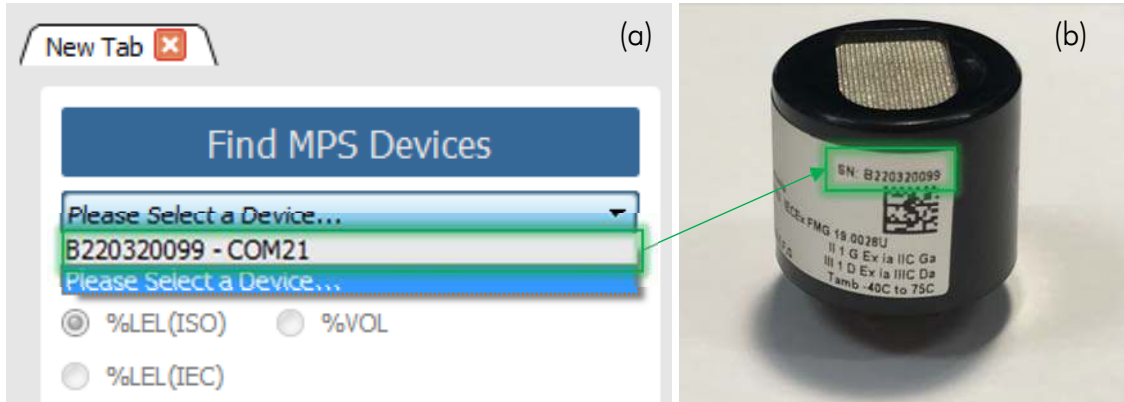

Figure 4 – (a) Selecting the active MPS™ Flammable Gas Sensor. (b) Device serial number
6. Click the “Find MPS Devices” button and select the MPS Flammable Gas Sensor connected to the computer (Figure 4). The sensor name is found on the sensor serial number in the form: Bxxxxxxx.